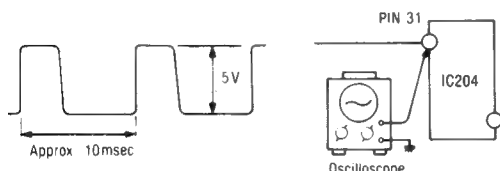

Fig. 21
2. Connect an oscilloscope to pin 31 of IC204, as shown in Fig. 21.